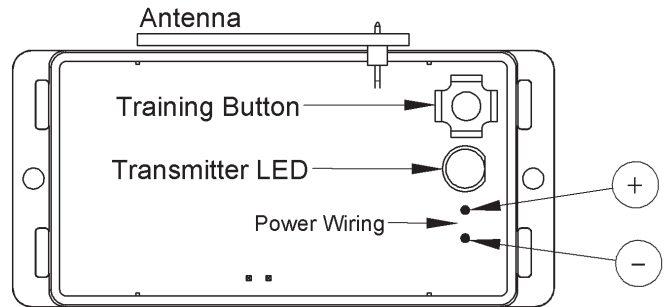

Fig. 5: Transmitter Module Control Identification
3. Open the cover of the transmitter and install the batteries, observe polarity. You may have done this in the wiring step. The transmitter LED, next to the Transmitter Training Button in Figure 5, should flash approximately once every 10-17 seconds. (The flash is very quick.)